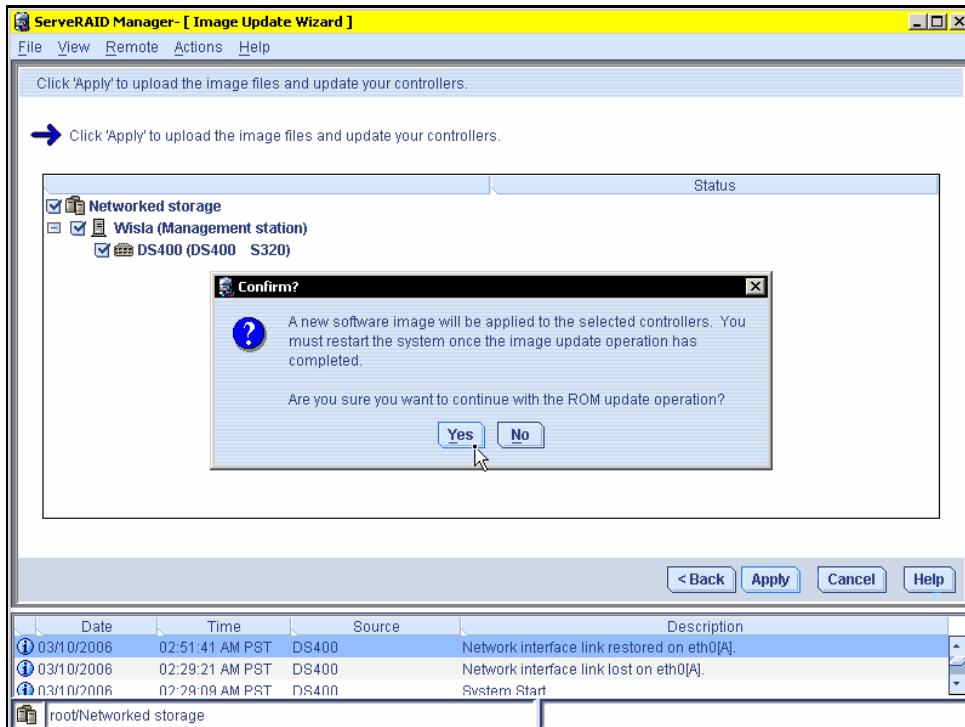

Figure 35 Verify ROM update
7. Verify the ROM update as shown in Figure 35.